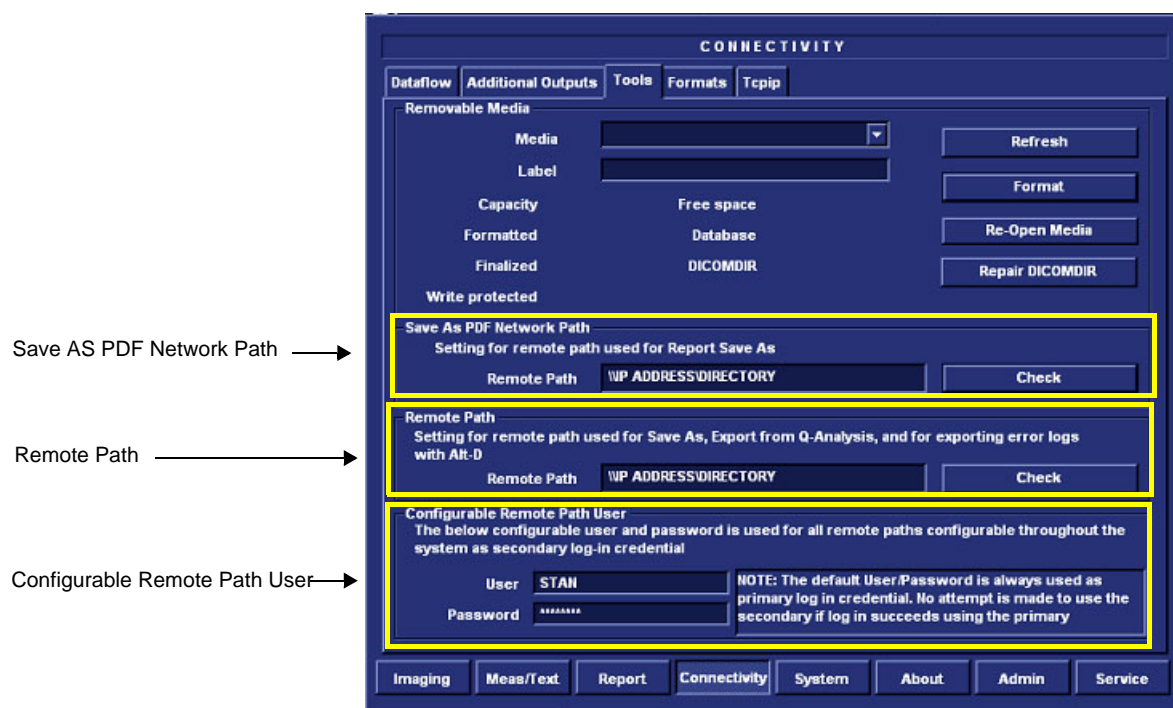

Figure 3-103 Tools Screen
NOTE: The paths below (refer to Figure 3-103) are used as follows:
The Tools screen opens - see Figure 3-103.
For example, in Figure 3-103 type: **\\IP ADDRESS\\DIRECTORY**, where directory is the name of the shared folder in the destination PC.
- Under Configurable Remote Path User (refer to Figure 3-103), type the desired user name and password, as configured on the destination PC.